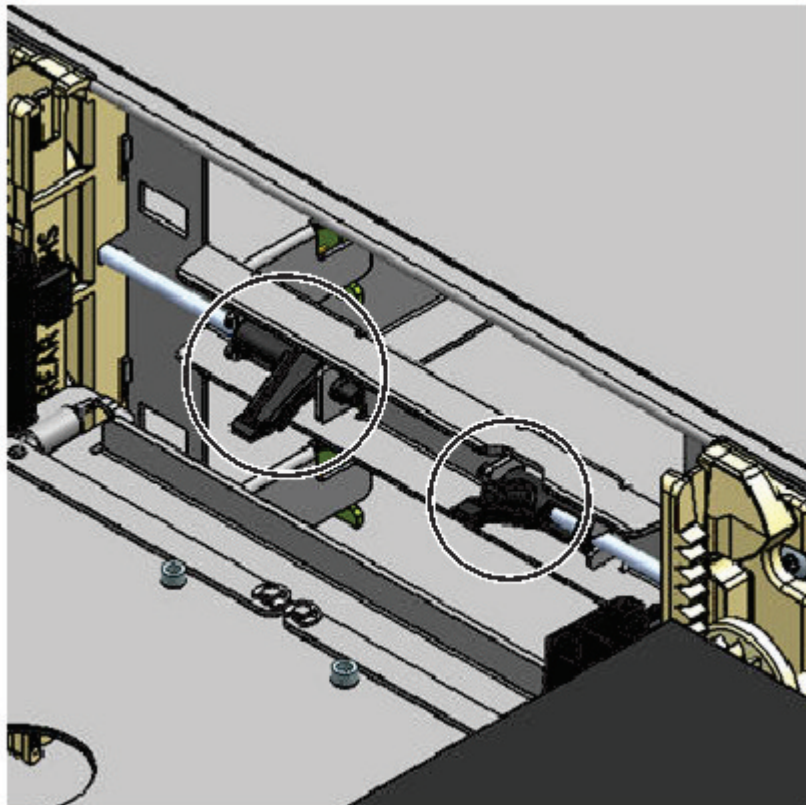

Figure 71. Magazine release levers
1. Remove the left and right magazines by using the magazine release levers (circled in Figure 71). Push up on the lever, then pull the magazine out.